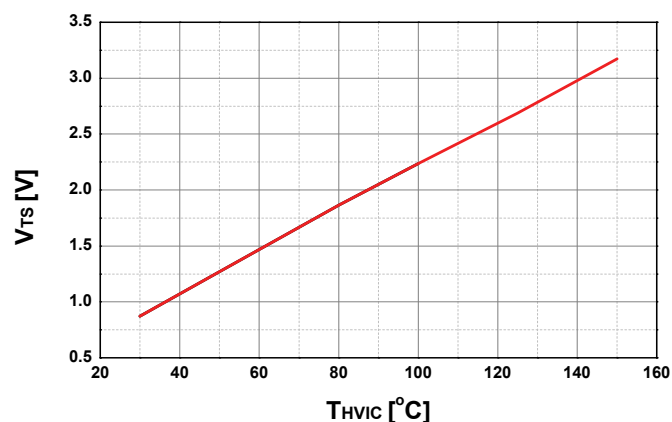

Figure 6. Temperature Profile of V_{TS} (Typical)
- t_{ON} and t_{OFF} include the propagation delay of the internal drive IC. Listed values are measured at the laboratory test condition, and they can be different according to the field applications due to the effect of different printed circuit boards and wirings. Please see Figure 6 for the switching time definition with the switching test circuit of Figure 7.